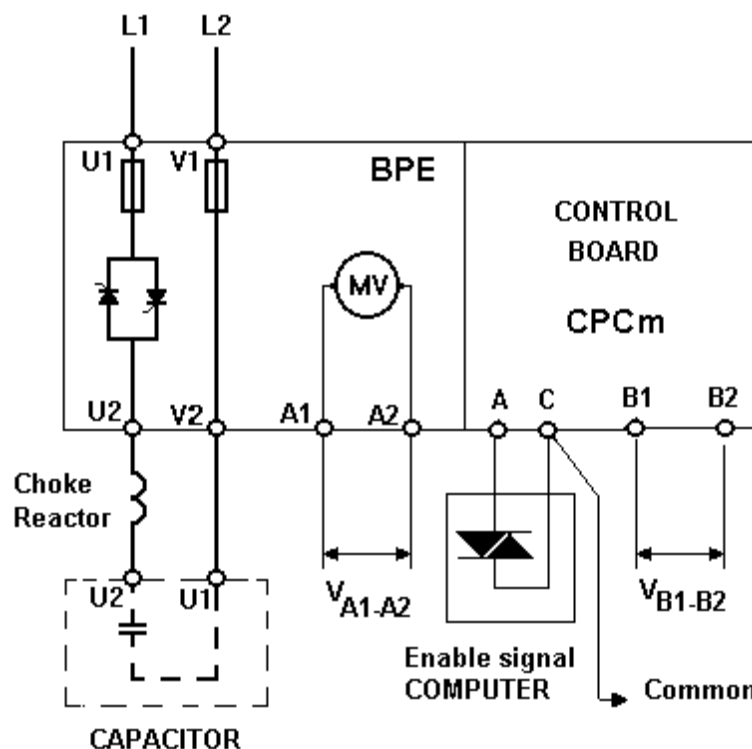

Figure 3.- Basic wire diagram for single phase EM modules.
- Single phase EM modules are similar to three phase ones. The main difference is that they have a unique power pack with two anti-parallel thyristors (see fig. 3)